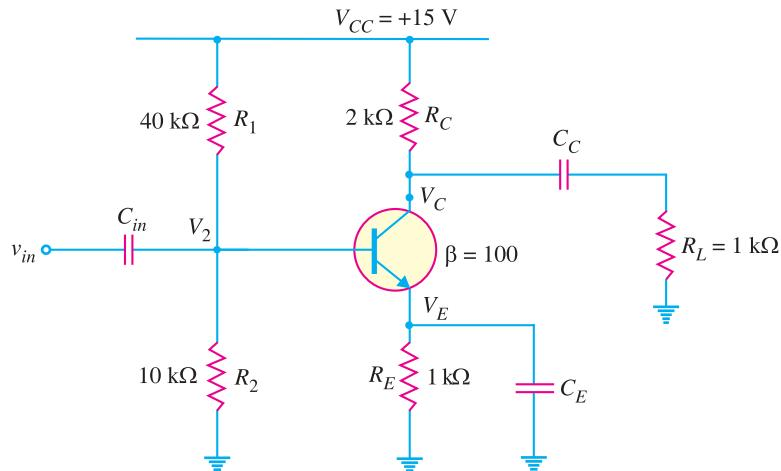

Fig. 10.32
**Example 10.17.** For the circuit shown in Fig. 10.32, find (i) the d.c. bias levels (ii) d.c. voltages across the capacitors (iii) a.c. emitter resistance (iv) voltage gain and (v) state of the transistor.